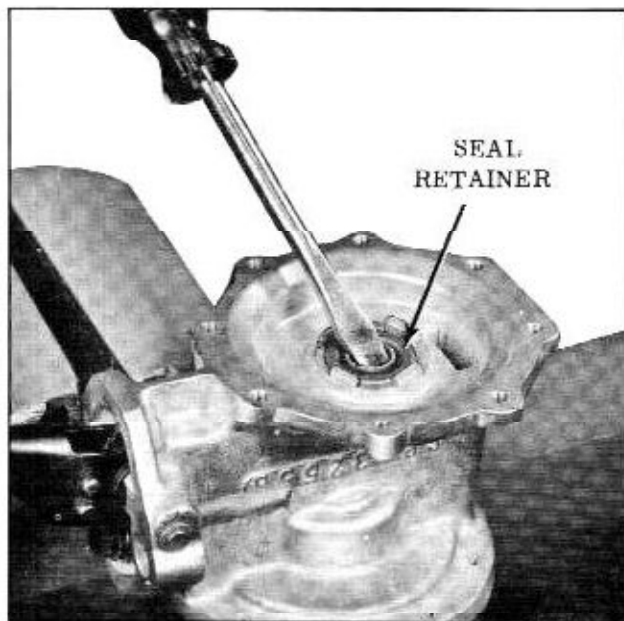

Fig. 8-71 Removing Pull Rod and Seal Retainer
- Remove pull rod seal by prying out seal retainer and seal. (Fig. 8-71)